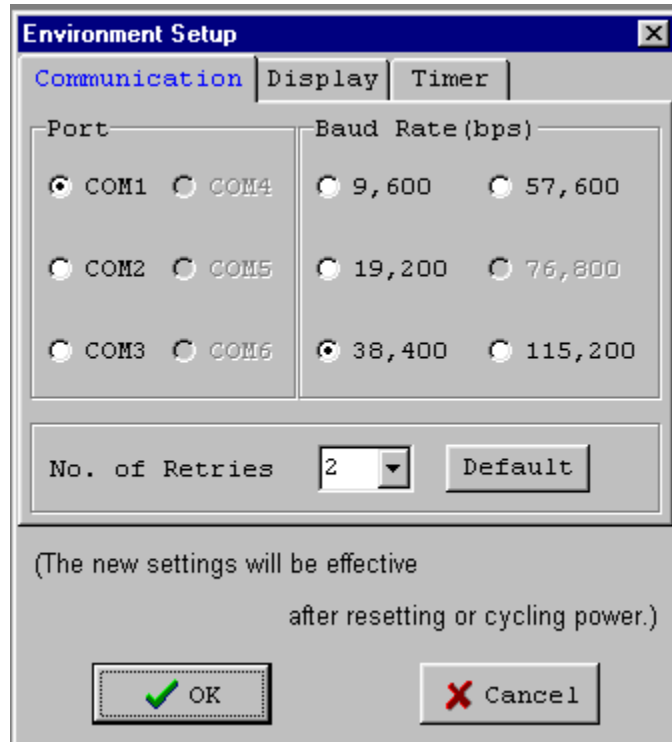

Figure 9.7.1 Environment Setting – Communication
- Select Tool (T) and then Environment Setting (S) from the menu.
- Click the **Communication** tab to display the window shown in Figure 9.7.1.